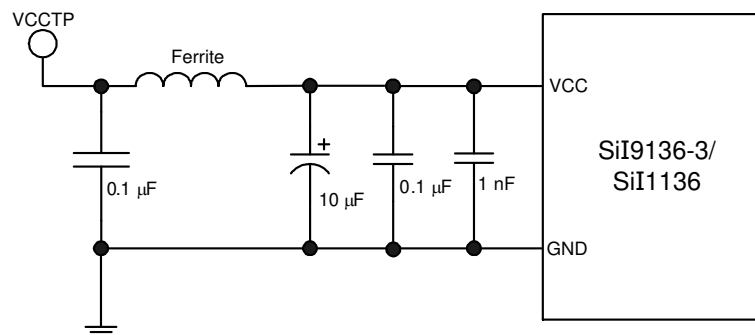

Figure 4.1. VCCTP Test Point for VCC Noise Tolerance
**\*Note:** The supply voltage noise is measured at test point VCCTP. See Figure 4.1. The ferrite bead provides filtering of power supply noise. The figure is representative and applies to the IOVCC33, CVCC12, and AVCC pins.